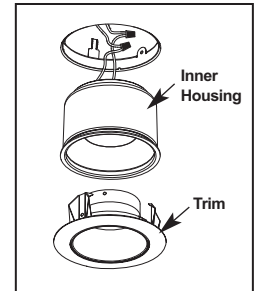

Figure 10
Step 2. Pull down inner housing to remove from fixture. Disconnect red and black wires connecting driver to inner housing and set aside. (Fig. 10)
Step 2. Pull down inner housing to remove from fixture. (Fig. 10)